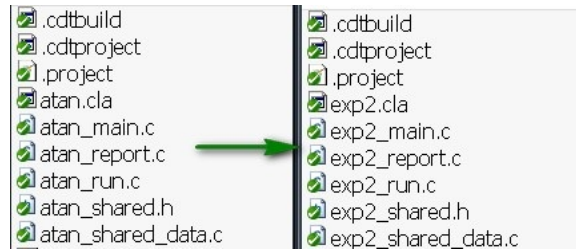

Figure 5.4: Creating a new project from existing examples
- Rename all files **atan\*.\*** to **exp2\*.\***. (Notice the naming convention. All files have the test folder name as a prefix, see Fig. 5.4 below)